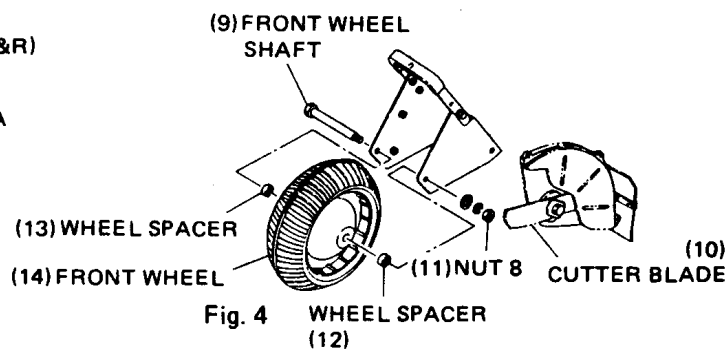

Fig. 4
- a. To install the front wheel, first remove the front wheel shaft. Then while holding the wheel in place, re-install the front shaft using wheel spacers on both sides. Secure with 8mm nut, 8mm washer and 8mm spring washer. (Fig. 4)